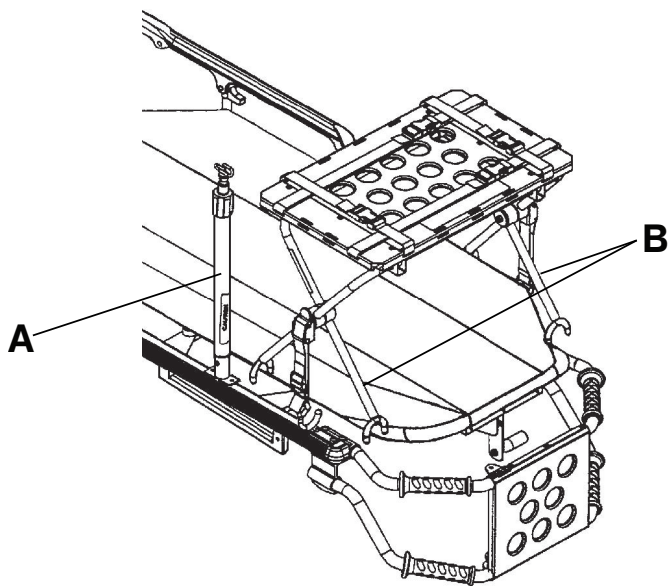

Figure 18 – Raise IV pole and position defibrillator tray (Model 6506 shown)
3. If the product is equipped with an IV pole, raise the IV pole (A) to the up position (Figure 18).
5. Position the inside legs (B) of the defibrillator platform toward the head end of the product (Figure 18).